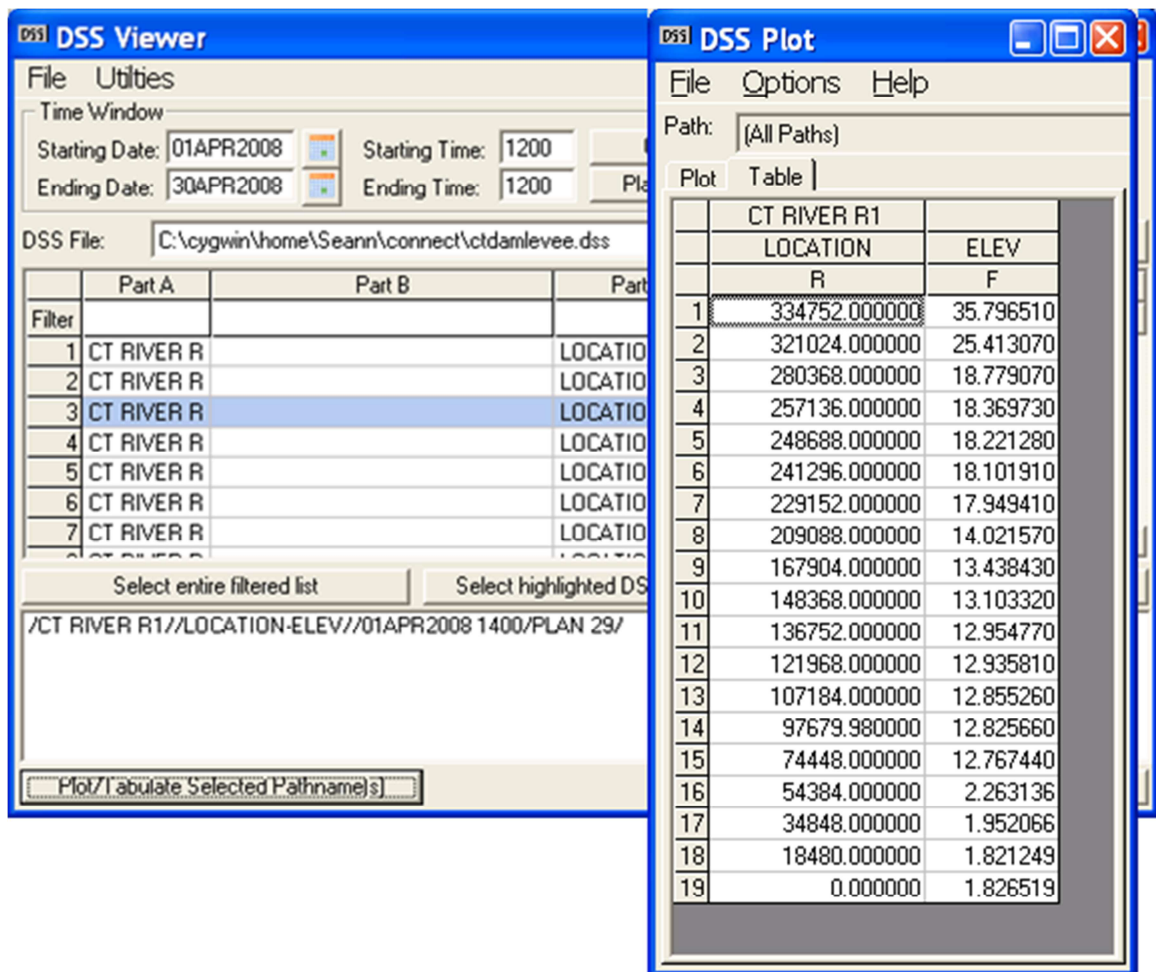

Figure 12: Chainages in HEC-RAS DSS file
The chainages and label name can be derived from the DSS output file (in Windows) by selecting one of the LOCATION-ELEV time series in the DSS viewer and copying the chainages from the table output to a spreadsheet. See Figure 12. The label name is constructed by added the reach name + underscore character+ chainage, eg. CT RIVER R1_18480.000000.
- (1) The amount of decimals should be equal to the label name in the output_profiles.xml, otherwise CHPS cannot import the time series. In the September 2011 version of the Adapter, the number of decimal places has been hardcoded to 6. To see the 6 decimal places you need in the DSS Viewer, select Options → Number of Decimal Places under the DSS Plot. Use of a large number of decimal places is an attempt to ensure that no duplicate point locations exist. Testing showed some models can have cross-sections that are very close together.
- (2) The FEWS Branches documentation indicates that the startChainage must be numerically greater than the endChainage and that each 'pt' must lie in-between these values. This is opposite from the tabular display shown in Figure 12. Therefore, the chainage should be reversed and entered from lowest to highest in the Branches.xml file as illustrated above.